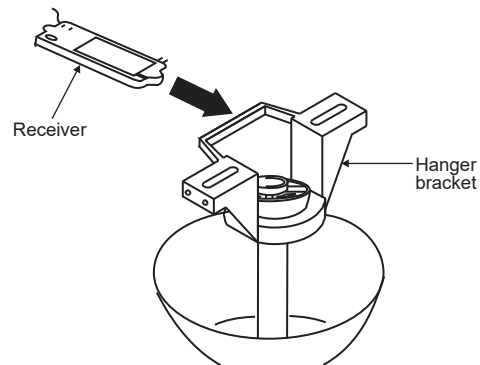

Fig. 12
Step 1. Insert the receiver into the ceiling mounting bracket with the flat side of the receiver facing the ceiling. (Fig. 12) For best performance, make sure the Black Antenna, on the end of the receiver, remains extended and not tangled with any of the electrical wires.